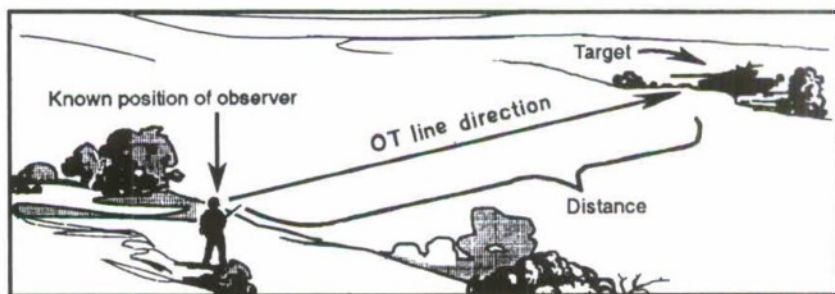

Figure 6-3. Polar plot method of target location.
The polar plot method requires that the observer and the FDC know the observer's exact location. The observer determines the direction (to the nearest 10 mils) of the observer-target (OT) line and the distance (to the nearest 100 meters) from his position to the target (see Figure 6-3).